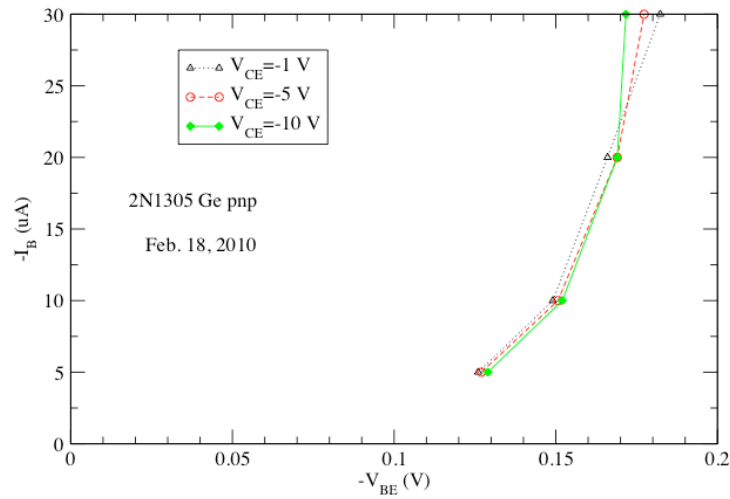

Figure 4: Example of input characteristic data
- (2) Input Characteristic: I_B vs V_{BE} for $V_{CE} = 1, 5$ or 10 volts. See Fig. 4.